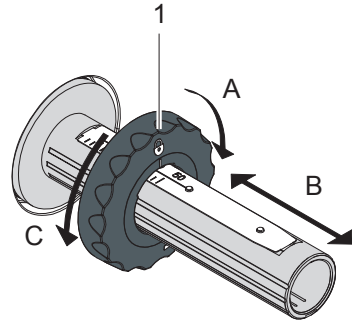

Fig. 13 Guide Adjustment
2. Turn lever (6) counterclockwise to open the printhead.
3. Set guide (1) on both hubs to the correct transfer ribbon width (Fig. 13):
- Hold hub and unlock guide (1) by turning it in direction A.
4. Load transfer ribbon (4) on the hub (5) until it reaches the guide in a way that the color coating of the ribbon faces the opposite side of the printhead after being loaded.